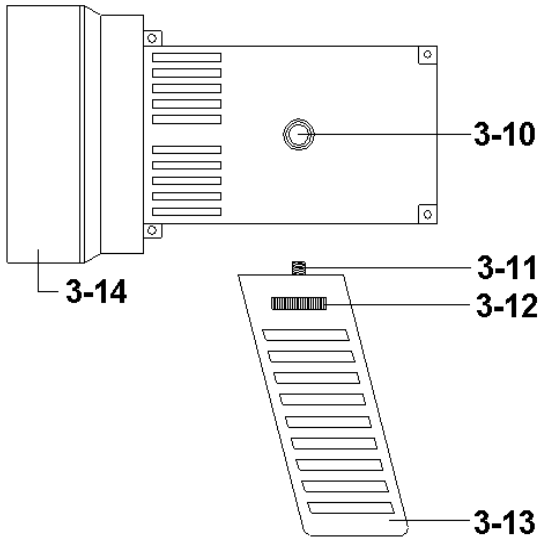

Fig. 2
- " Handle fix knot " ( 3-10, Fig. 2 ),
- " Handle fix screw " ( 3-11, Fig. 2 )
- " Handle fix knob " ( 3-12, Fig. 2 )
- 1) Loss ( rotate ) the " Front top cover " ( 3-14, Fig 1, Fig. 2 ) and take away the " Front end protection cover ".